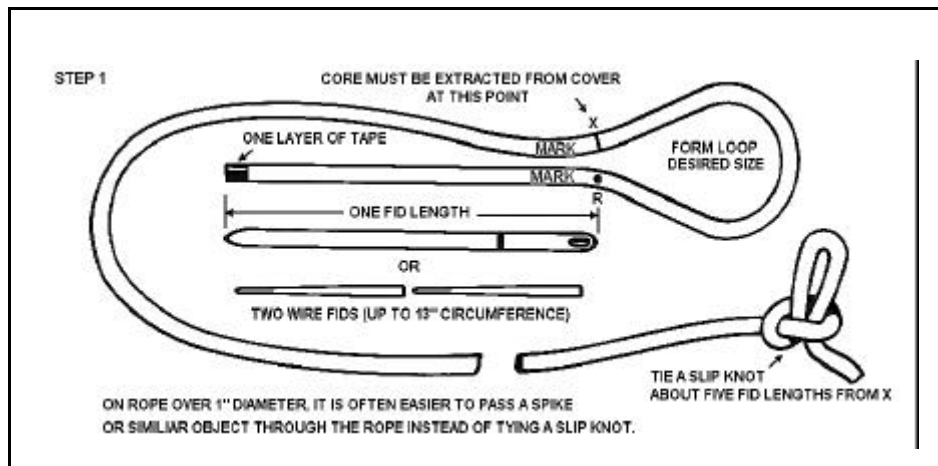

Figure 12-52. Marking the Measurements (Step 1)
- **STEP 1 -- Marking the measurements.** Tape end to be spliced with one thin layer of tape. Then measure one tubular fid length (two wire fid lengths because wire fid is one-half size) from end of line and mark. This is point R (see Figure 12-52, page 12-46). From R, form a loop the size of the eye desired and mark. This is point X (where you extract core from inside the cover). If using a thimble, form the loop around the thimble. Tie a tight slip knot about five fid lengths from point X. **THIS MUST BE DONE.** If you require the line with the finished splice(s) to be a certain overall length, see paragraph 12-125.